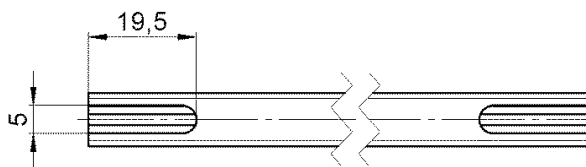

Fig. 26: Cut the slot up to the hole
- Cut a 19.5 mm long slot with the side cutter on both sides up to the drill hole (see Fig. 26).